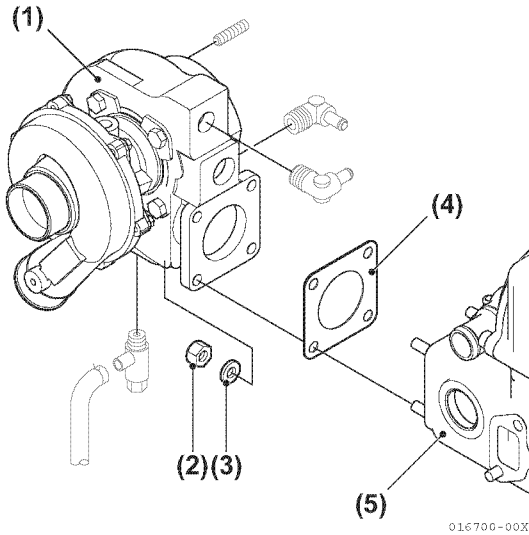

Figure 9-9
- Remove four nuts and washers (Figure 9-9, (2),(3)) and remove turbocharger (Figure 9-9, (1)) from heat exchanger body (Figure 9-9, (5)).
- Remove gasket (Figure 9-9, (4)).